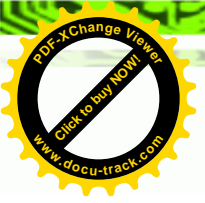

Figure 5-13: Graphics Driver Installation Finish Screen
**Step 16:** The Finish screen in Figure 5-13 appears.